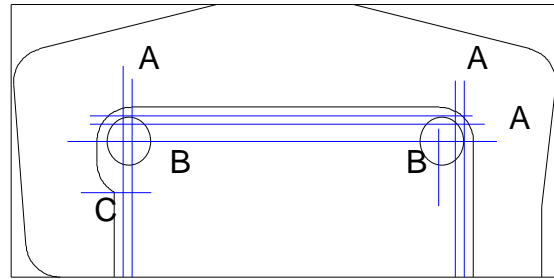

Fig. 3 Layout Holes/Bandsaw Path
05. Lay out the throat geometry (see Fig. 3):